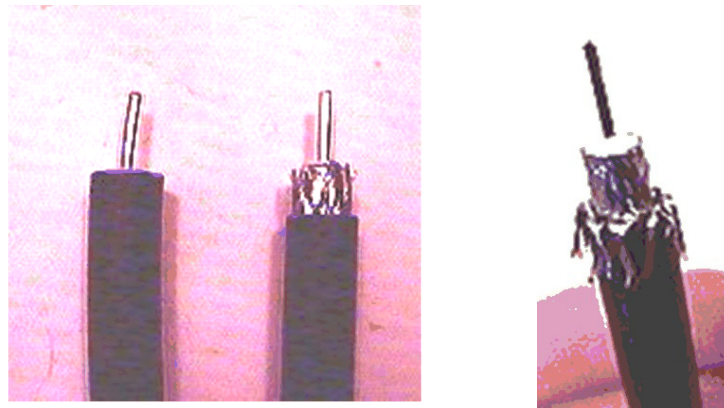

Figure C-3. Folding the Braid
4. Fold the braid back over the jacket and trim the braid to the length as defined under **Length C** in Table C-1 on page 66 and shown in Figure C-3.
9. Since the RG-11 connector has a built-in center pin, ensure that the coax center pin makes contact to the internal seizing pin of the connector. Refer to Figure C-3.